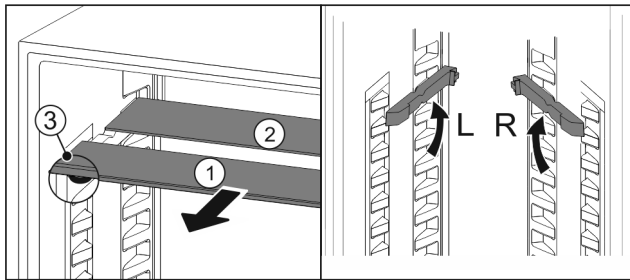

Fig. 205
- Pull the glass panels out Fig. 205 (1) from the front, one at a time.
- The glass panel Fig. 205 (1) and trim strip are at the front.
- The stops Fig. 205 (3) point down.